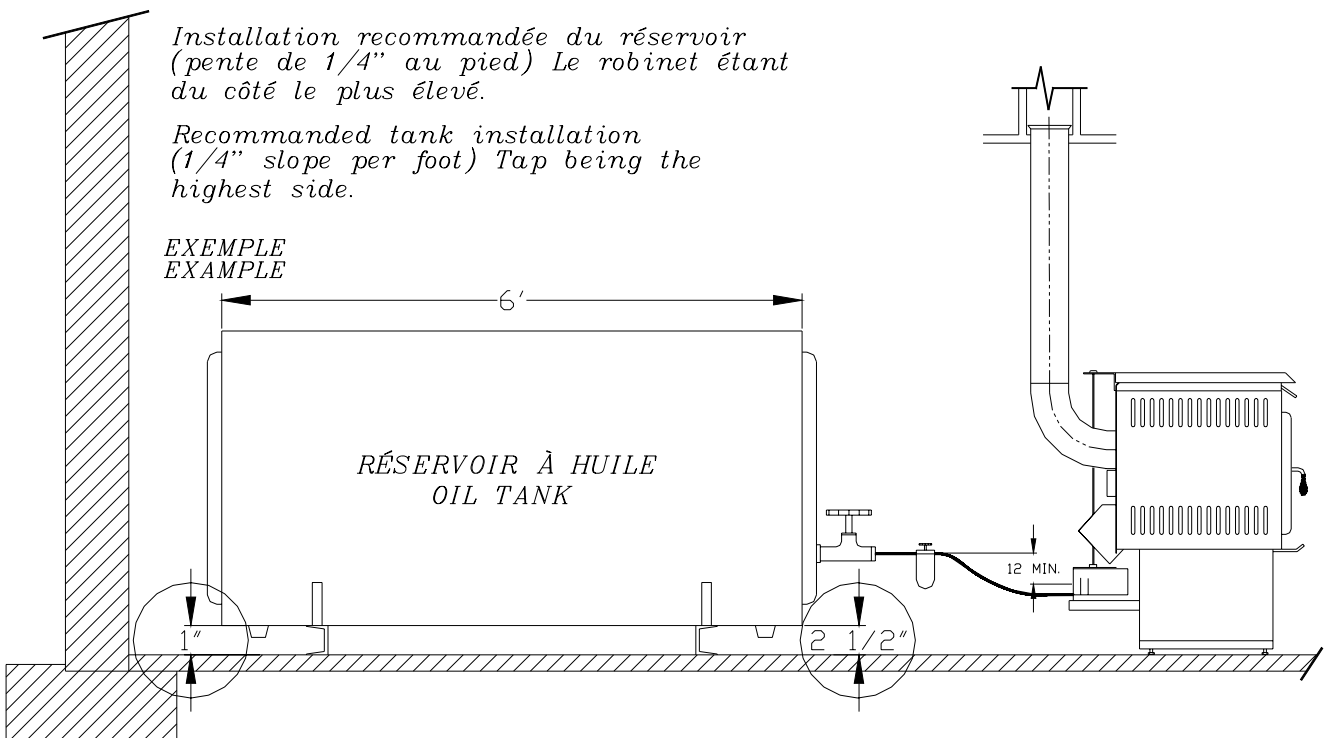

Figure 11 : OIL TANK CONNECTION
- The stove must be fixed in its location using the two fixation brackets. Install the brackets on the two adjustable back legs. (figure 11)